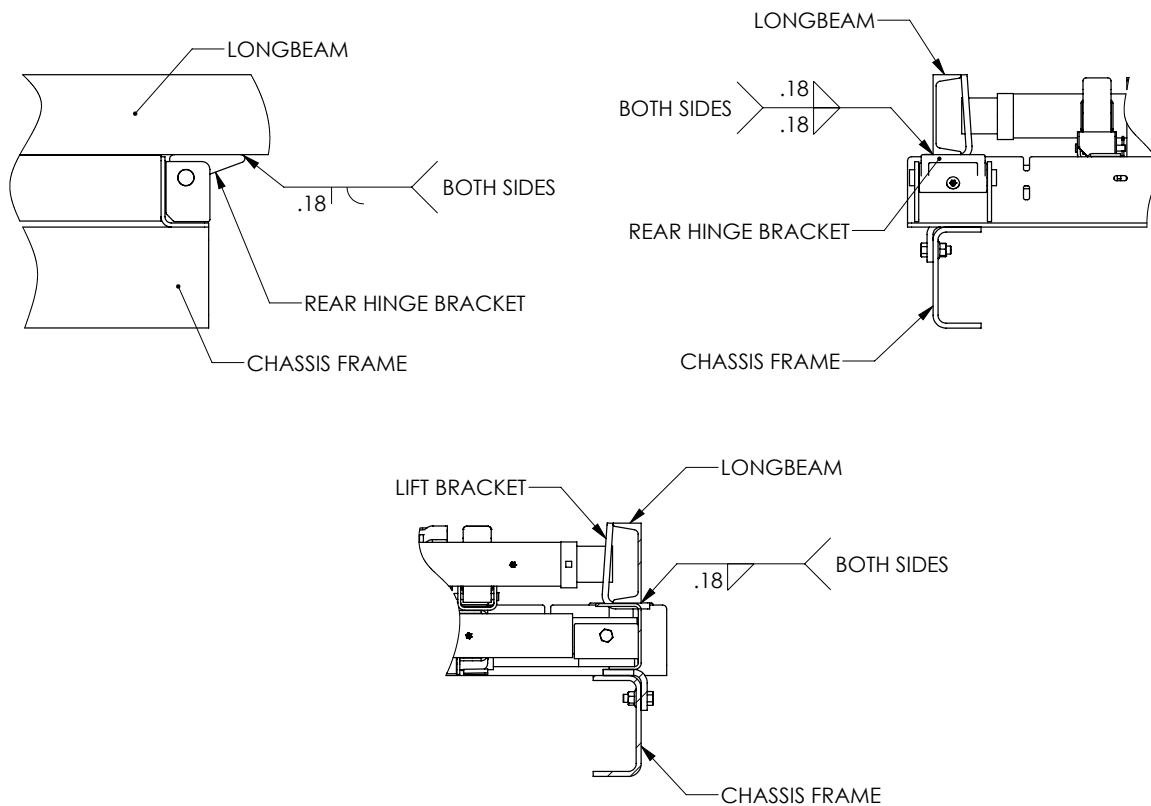

Figure 14
9. Position the rear hinge brackets against the bottom side of the long beams. Once in position, weld the rear hinge brackets to the body long beams as shown in **Figure 14**.
10. Slide each lift bracket against the inside of the long beam channel. Then weld the lift bracket to the outside of the long beam (**Figure 14**).